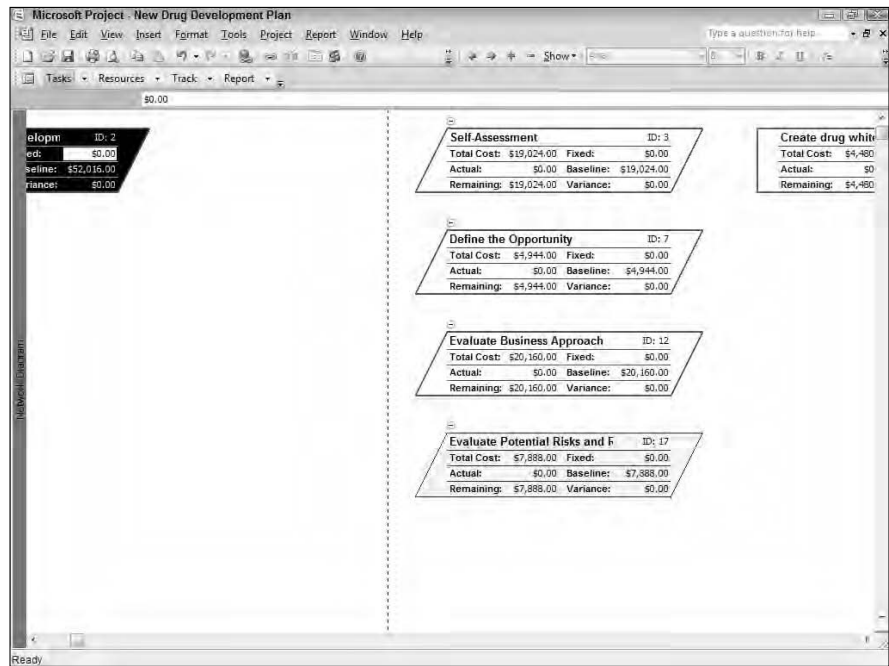

Figure 4-4: Network Diagram view with the Cost Table displayed.
- ◆ Network Diagram view can also display the Cost Table, showing you a neat snapshot of each task's costs within its own task box (see Figure 4-4).